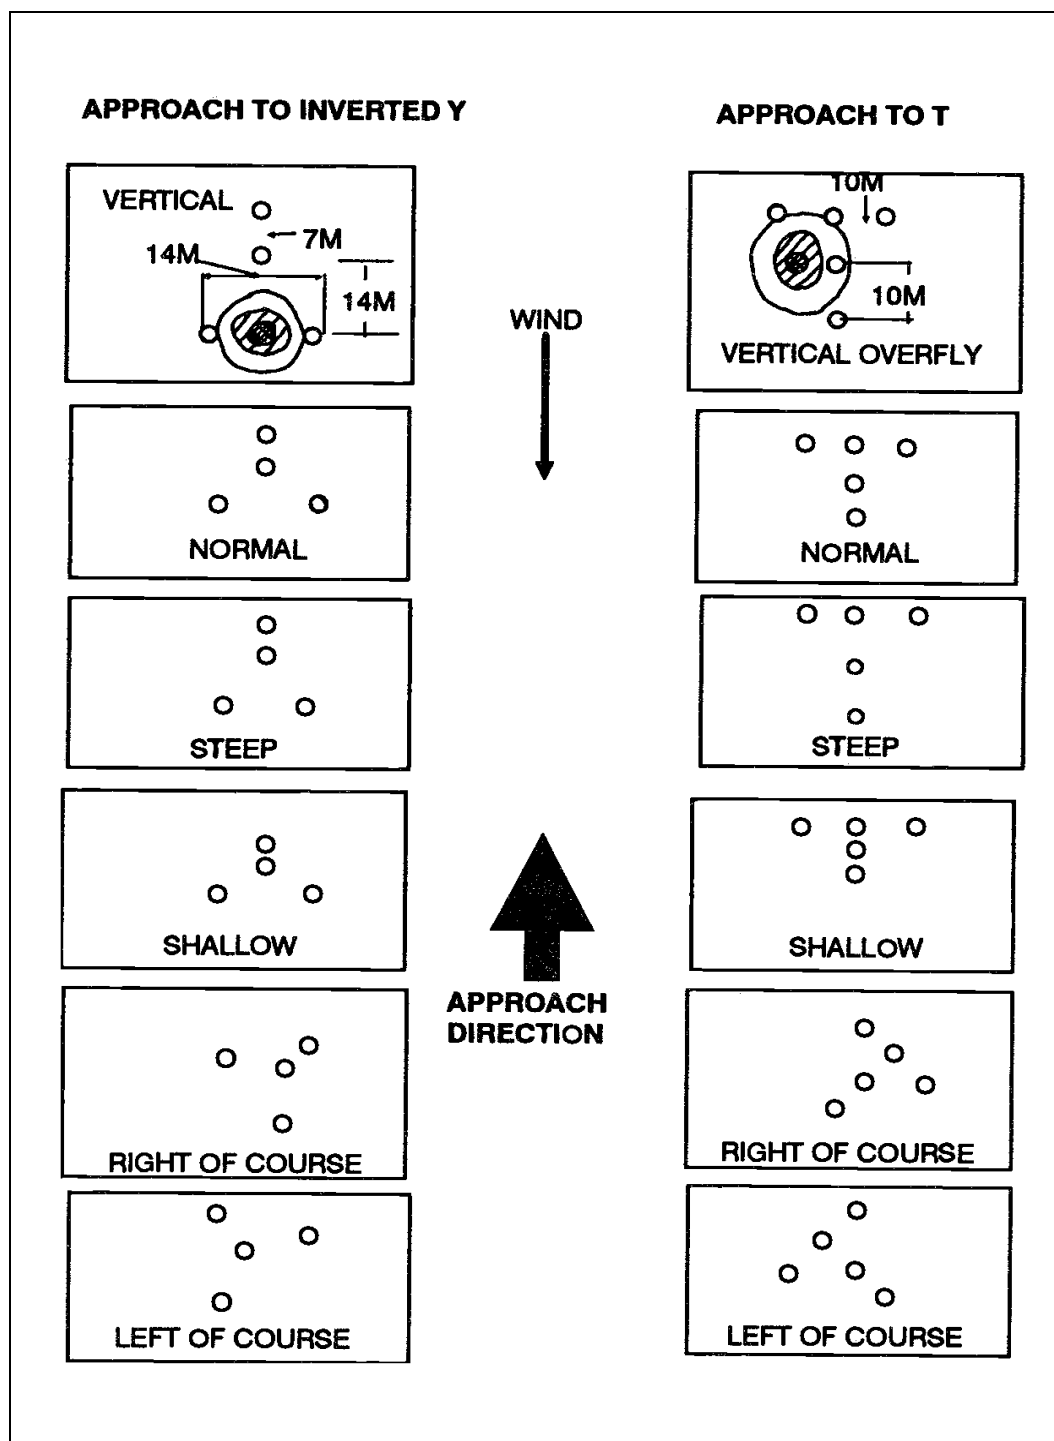

Figure 4-11. Lighted night landing symbols as the pilot would see them from different approach angles.
a. At night, pathfinders can use lights of different colors (except red, which marks obstacles) to designate different helicopter sites or to separate flights within a larger formation. A lighted "T" or inverted "Y" indicates both the landing point for the lead helicopter of each flight and the direction of approach (Figure 4-11, page 4-17). Other lights mark touchdown points for the other helicopters in the flight. Each helicopter should land with its right landing gear or its right skid 5 meters left of the light.